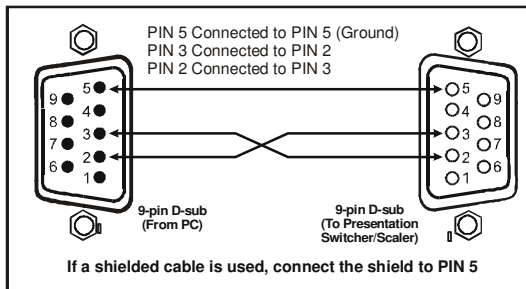

Figure 4: Connecting the PC
- Connect the RS-232 9-pin D-sub port on your PC to the RS-232 9-pin D-sub rear panel port on the **VP-728** unit, forming a cross-connection¹, as Figure 4 illustrates